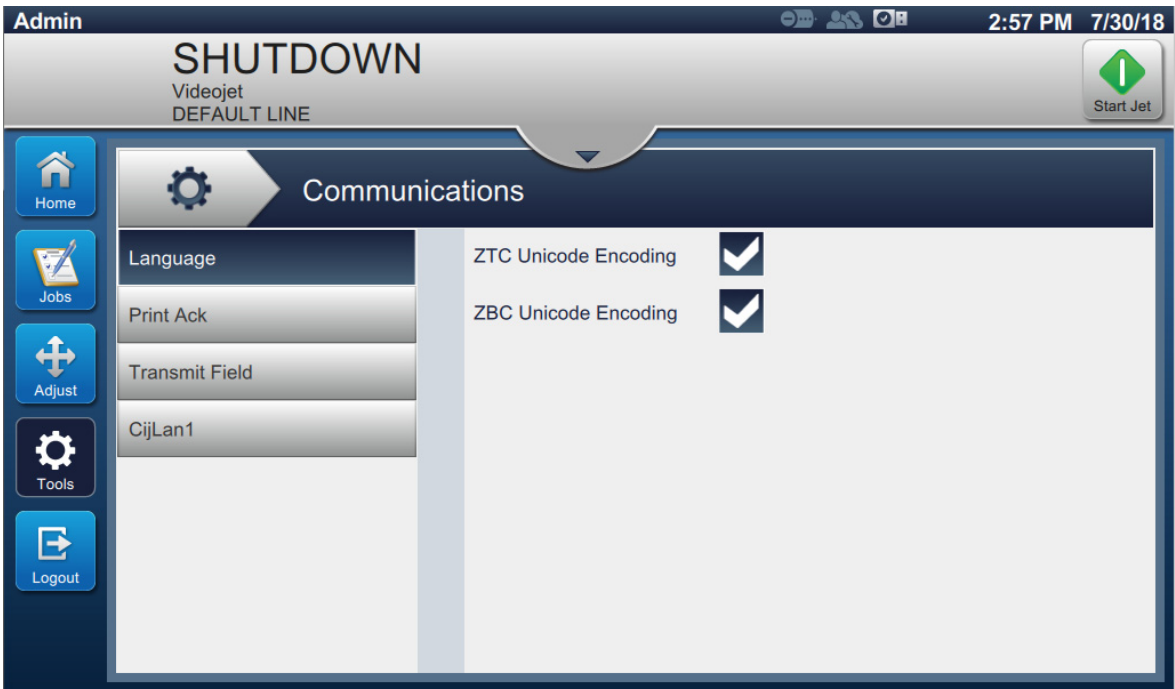

Figure 6-16: Communications Screen
- 1. Touch the  button from the Tools screen. The Communication screen opens as shown in the Figure 6-16.